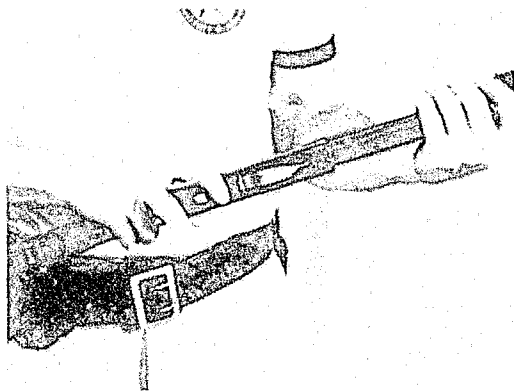

Figure 8-12
- A. Loading for duty (four round magazine) (See Figures 8-12 through 8-15)